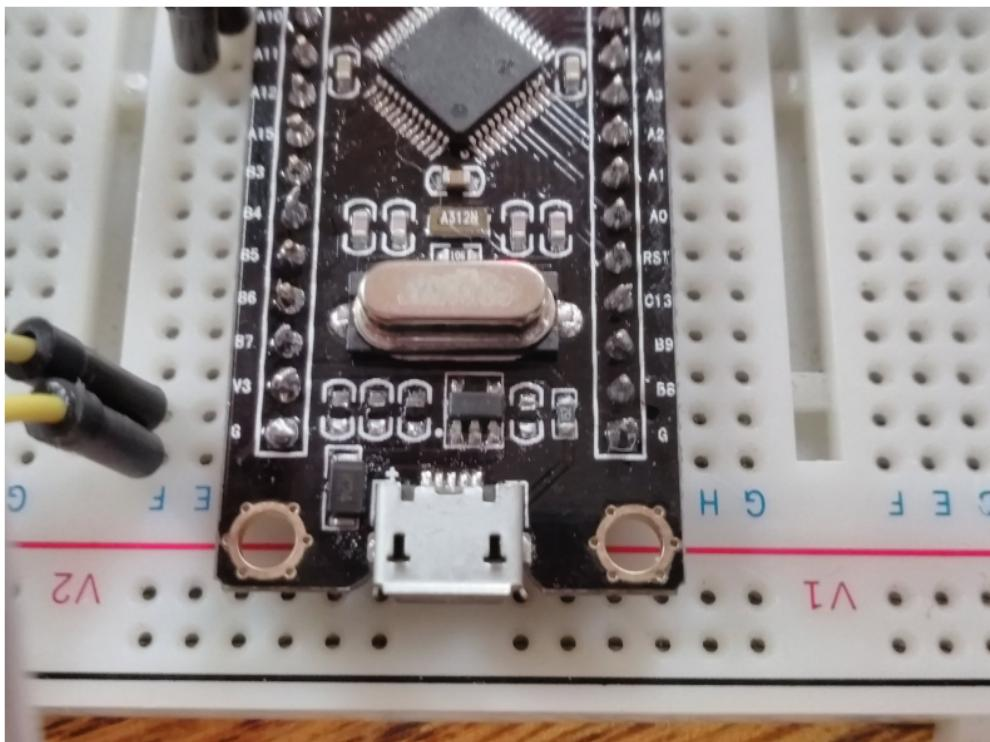

Figure 14.2: Powerline decoupling capacitors removed off a 'blue-pill' like dev board
- Remove the power decoupling capacitors - not all the caps need to come off, but the decoupling ones should be removed. See fig 14.2.